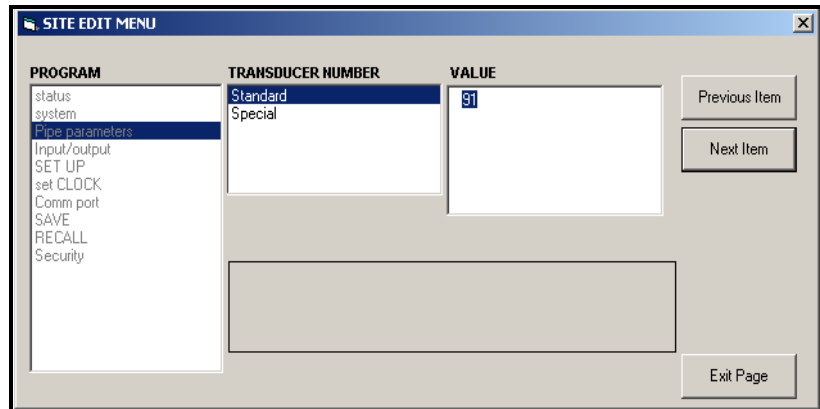

Figure C-21: Pipe Parameters Option in Site Edit Menu
- a. Highlight and double-click on the desired option in the left pane. Figure C-21 below shows the first entry (Transducer Number) in the *Pipe parameters* option. The title above the center pane lists the current entry, while the center pane displays the available selections for that entry.